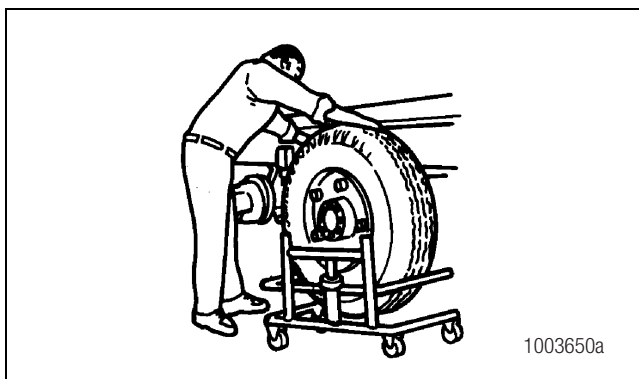

Figure 6.5
3. Use a wheel dolly and pull the tire and wheel assembly STRAIGHT off the hub. A wheel dolly will help protect the through-tee when you remove and replace the tire and wheel assembly. Figure 6.5.